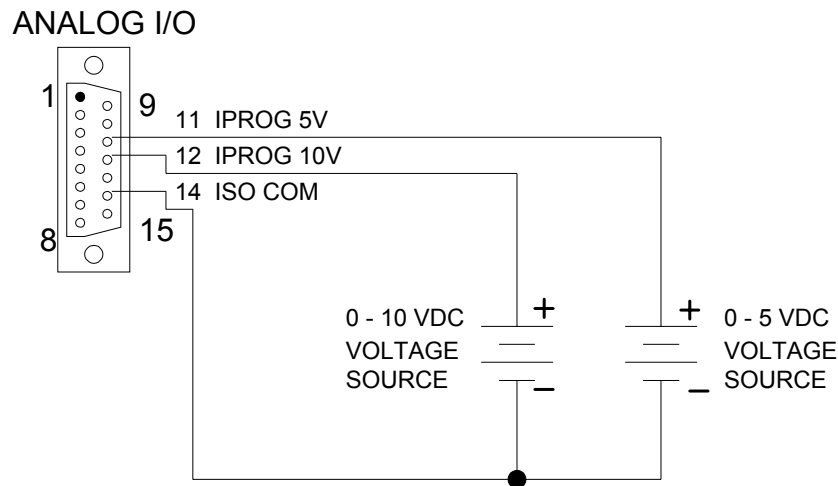

Figure 5-4: Remote Current Programming Using 0-5 or 0-10 VDC Source
1. External Current Programming Using a 0-5 VDC or 0-10 VDC Voltage Source. A DC voltage source for remote current programming is connected between PIN 11 (I PROG 5V) or PIN 12 (I PROG 10V) and the return PIN 14 (ISO COM). The voltage coefficient for 5V remote current programming is 50 millivolts = 1% of rated output, i.e., for a 100 amp model, each 100 millivolts of programming voltage equals 2 amps of output current. See Figure 5-4 for connection requirements.